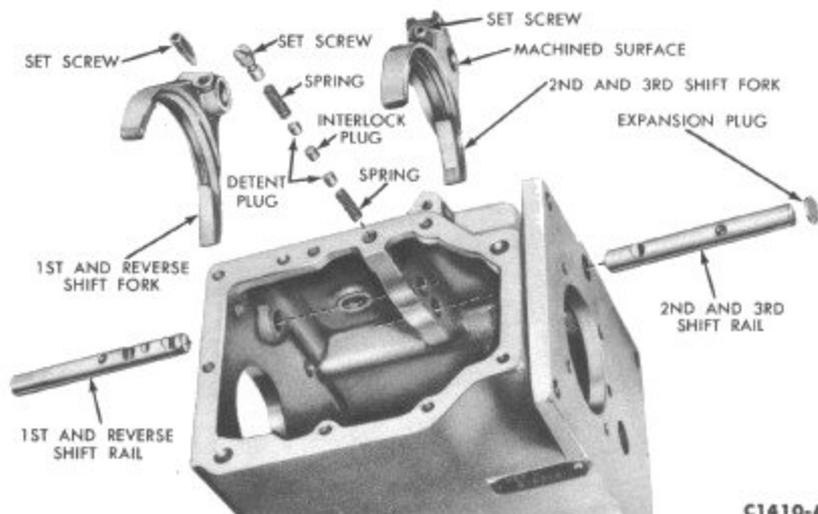

FIG. 46—Shift Rails and Forks Disassembled
The shift forks, shift rails, detent mechanism and related parts are provided in the transmission case (Fig. 46).
12. Remove the set screw (Fig. 46) that retains the detent springs and plugs in the case. Remove a detent spring and plug from the case.
the expansion plug (Fig. 46) from the front of the case.
12. Place a detent plug spring and a plug in the case (Fig. 46). Place the second and third speed shift fork in the synchronizer groove. Rotate the fork into position and install the